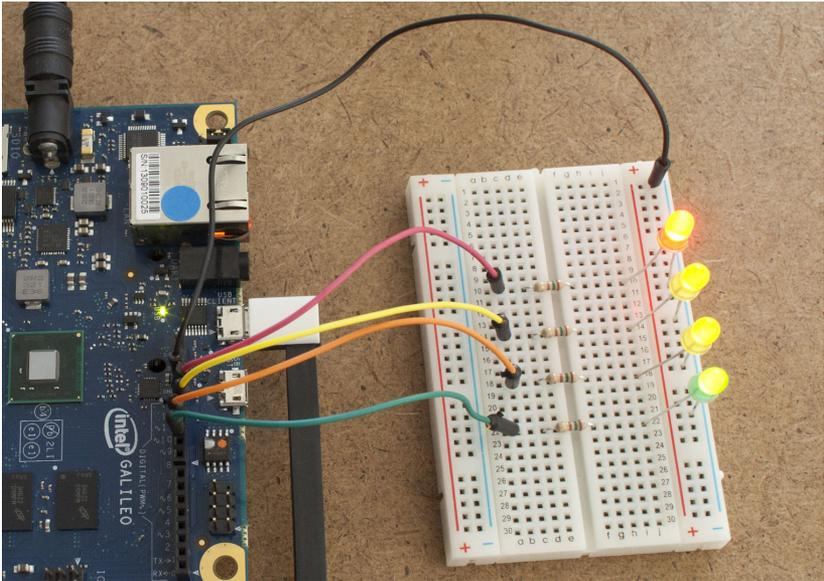

Figure 3-10. One way of wiring up multiple LEDs to Galileo using a solderless breadboard
3. Connect each of those rows to different digital output pins through the appropriate current limiting resistor. See figure Figure 3-10.